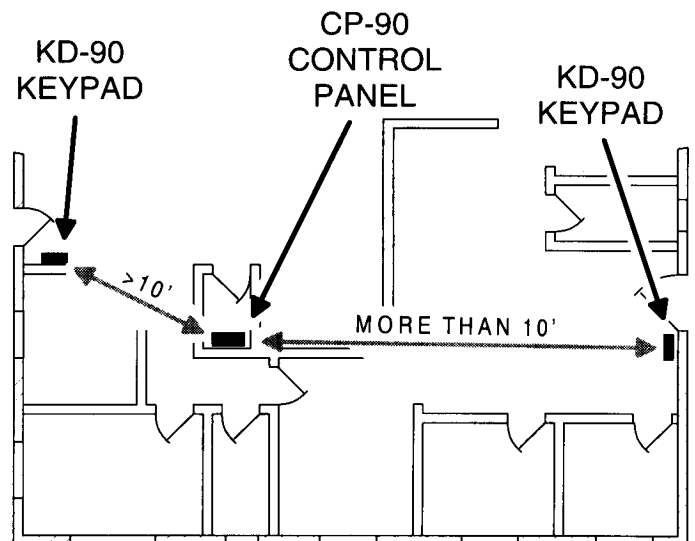

Figure 20. Keypads 10 Feet Minimum from Antenna
- ✓ Make sure that the CP-90's local or EXA-1000 remote antenna is at least 10 feet from the nearest keypad (see Figure 20).